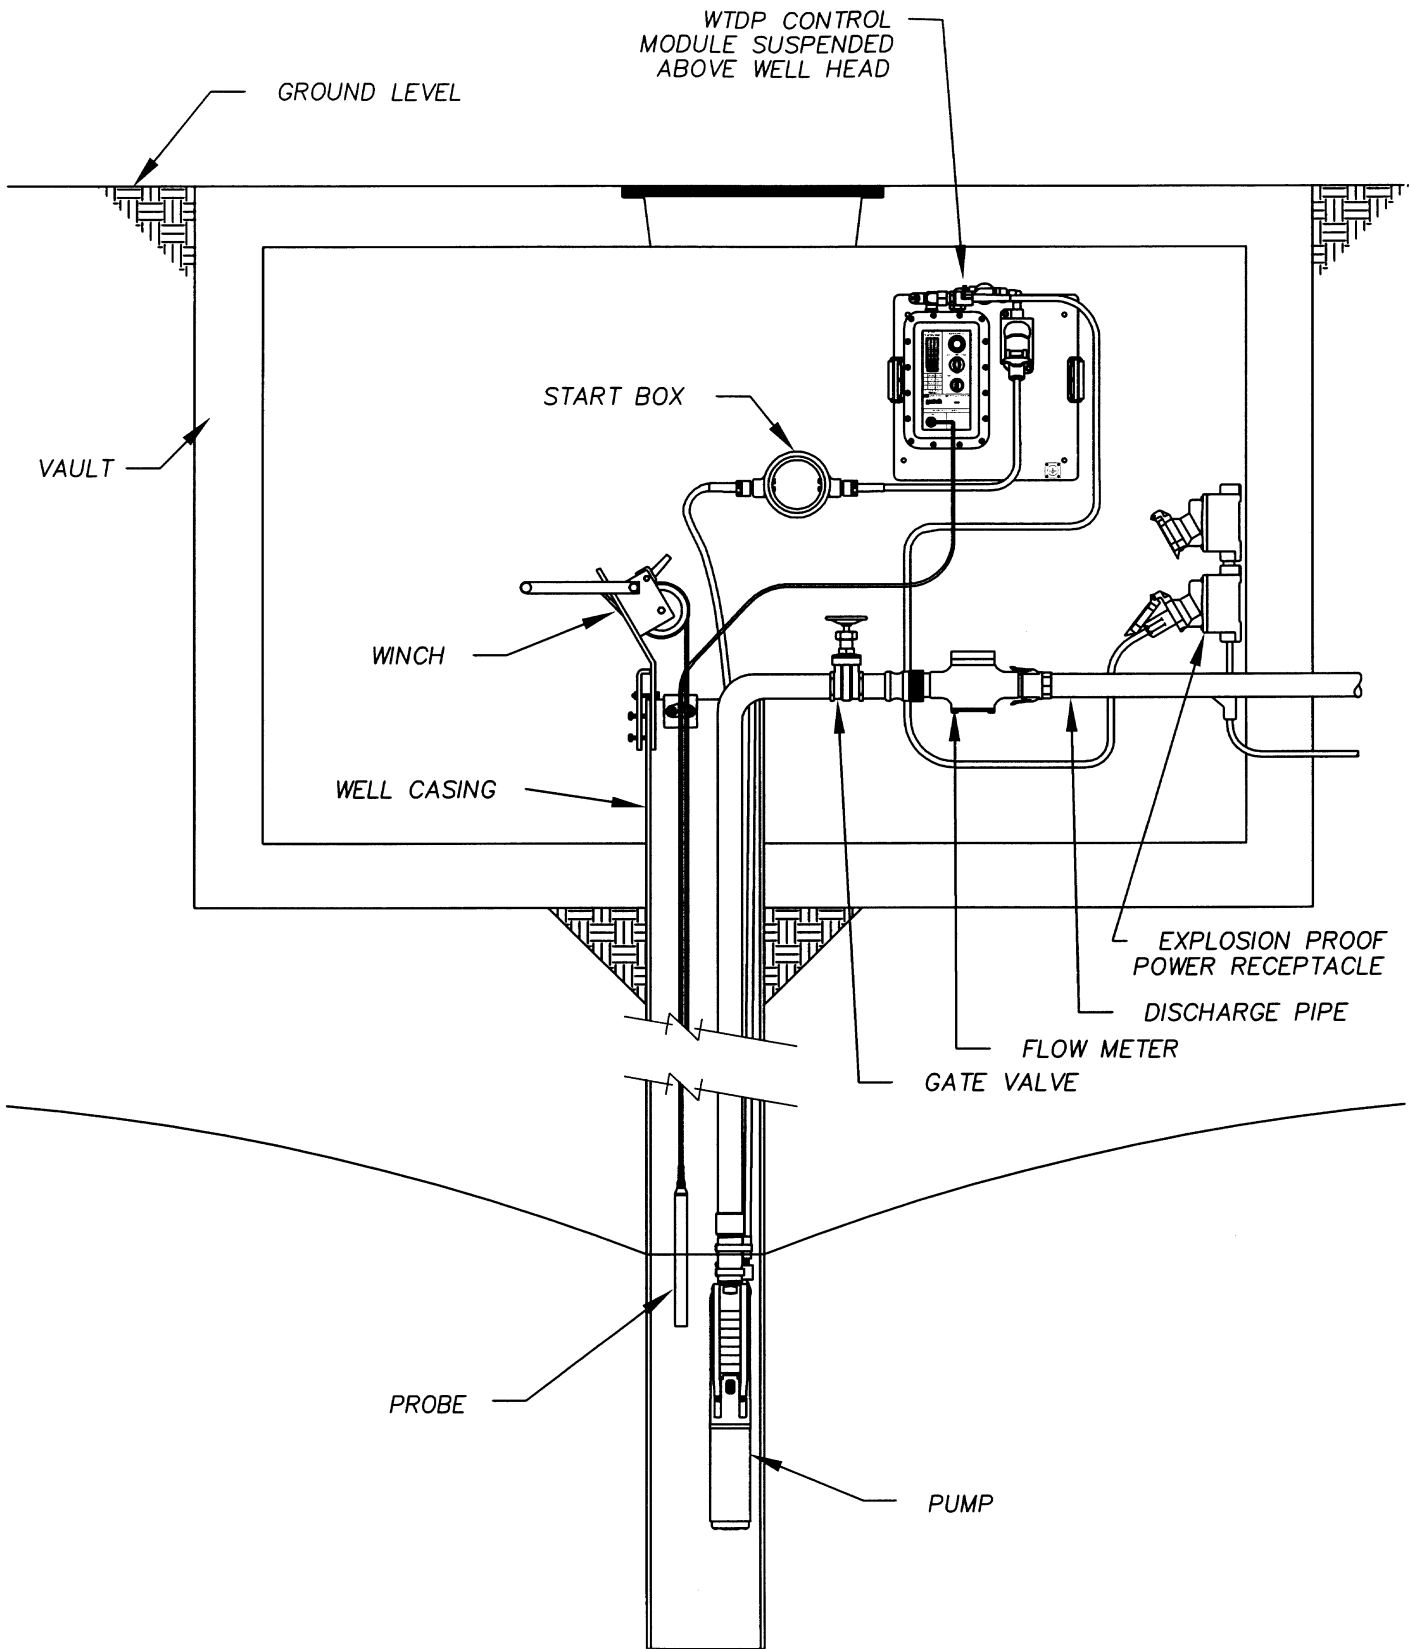

Figure 2-1: Water Table Depression Pump Deployed in Vault
2. Deploy the control module adjacent to the well. Mount vertically to reduce the possibility of intrusion by rain. If using a vault, mount the control module as far above the well head as possible. This will reduce the possibility of damage to the control module should the vault become flooded. See Figure 2-1 for a typical vault layout.